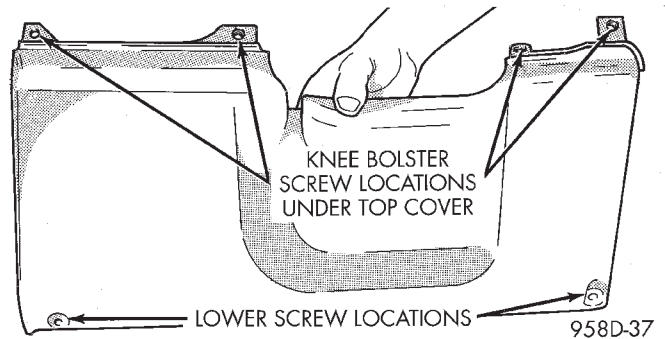
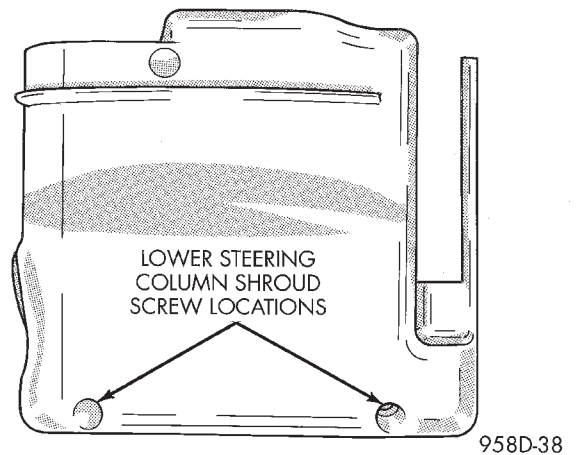

Fig. 15 Knee Bolster Attaching Points
Fig. 16 Lower Steering Column Shroud Screw Locations
- (10) Pull instrument panel top cover up enough to gain access to knee bolster screws (Fig. 15).
- (11) Remove lower knee bolster screws and knee bolster.
- (12) Remove screws from lower steering column shroud (Fig. 16).